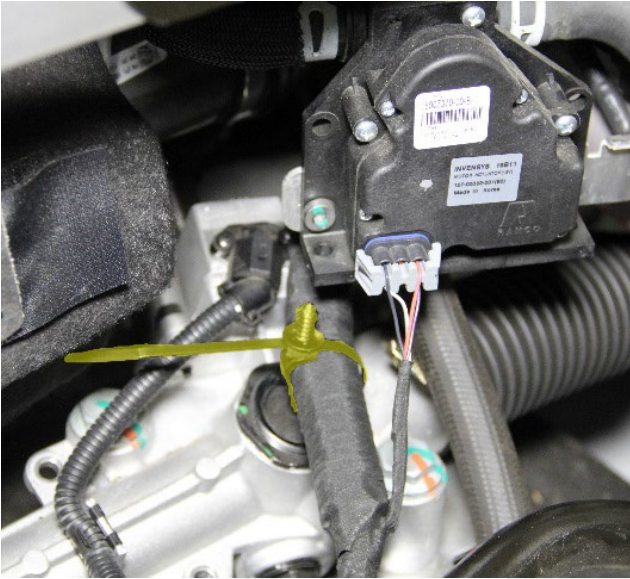
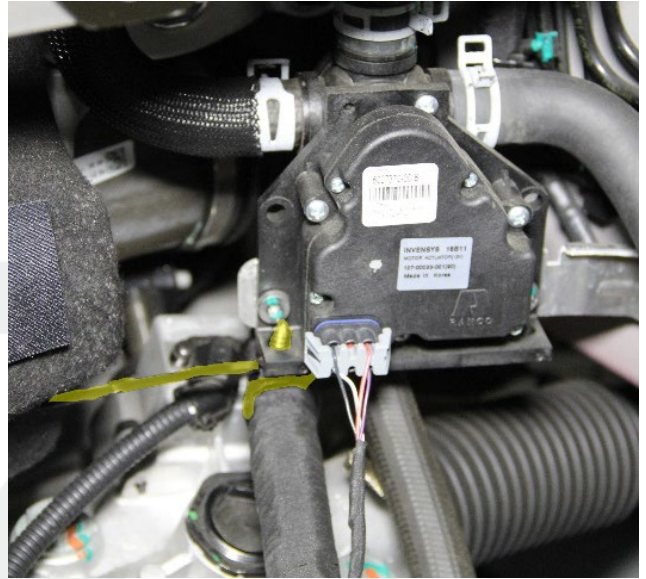

Figure 9
Figure 10
13. Loosely install a new clip on the front body harness (Figure 9), and then attach the clip to the 4-way coolant valve (Figure 10).